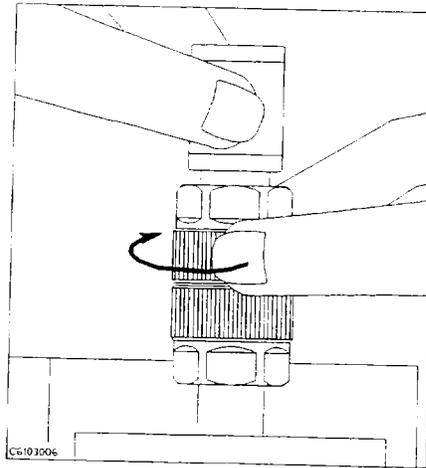

Figure 3-10.
13. Connect the $50\ \Omega$ termination on the APC-7[®] connector as shown in Figure 3-10.